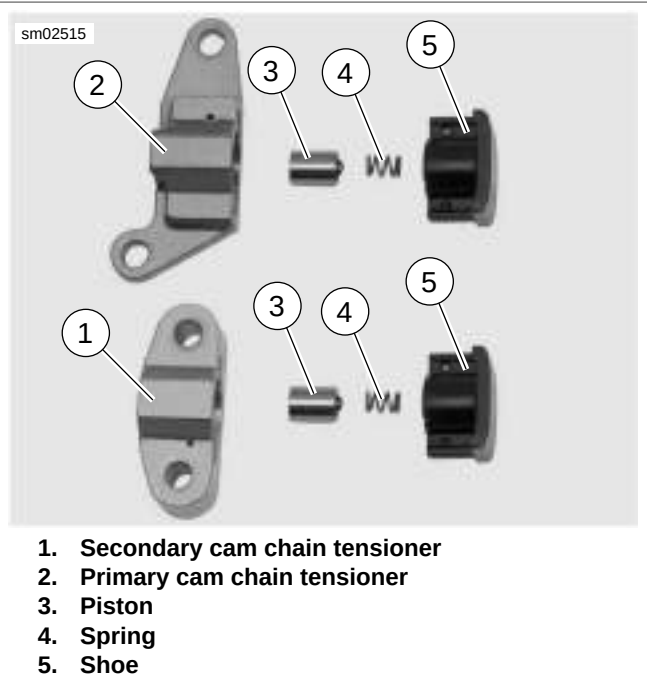

Figure 3-112. Cam Chain Tensioner Assemblies
- b. See Figure 3-112. Be sure primary and secondary cam chain tensioners are assembled as shown. If assembled incorrectly, tensioners will not function properly.